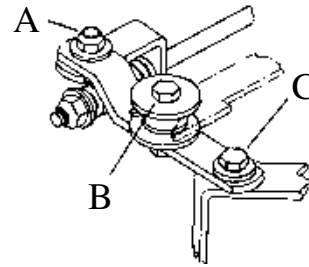

Figure 6.15 Autodrive neutralising adjustment
6. Remove nut (A) securing neutral rod bracket to neutralising arm. Figure 6.15.
3. Remove neutralising arm pivot bolt (C) Figure 6.15.
2. Loosen bolt (B) and move bolt and bearing in slot to centralise drive assembly in neutral position and re-tighten bolt. Figure 6.15.